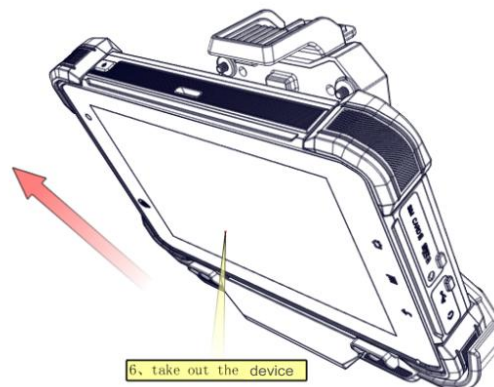

Figure 6
4.2.2. Take out the device as Figure 6 shown.